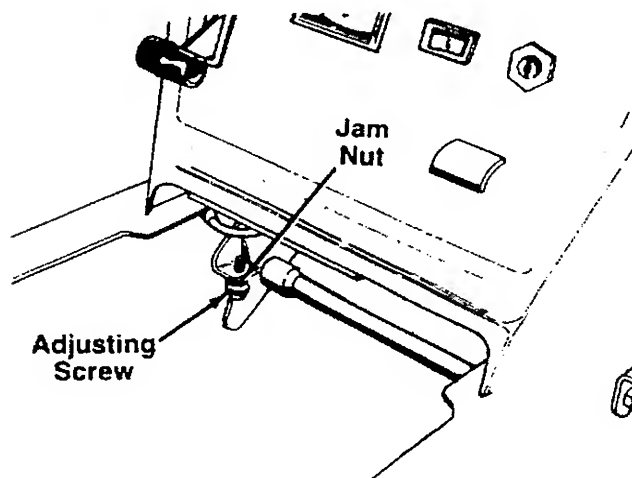

FIGURE 11.
2. Using a 1/2" wrench, loosen the jam nut. See figure 11.